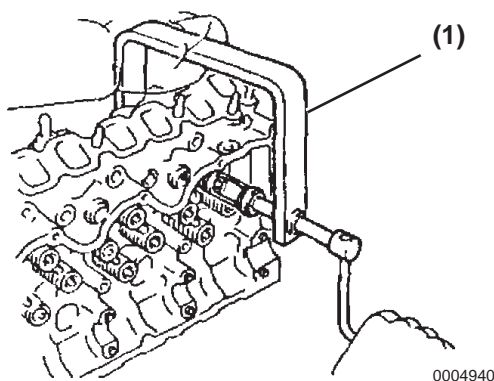

Figure 5-15
2. Compress the valve spring using special tool P/N 119770-02000 (**Figure 5-15, (1)**) and remove 2 cotters. Perform for all valves.